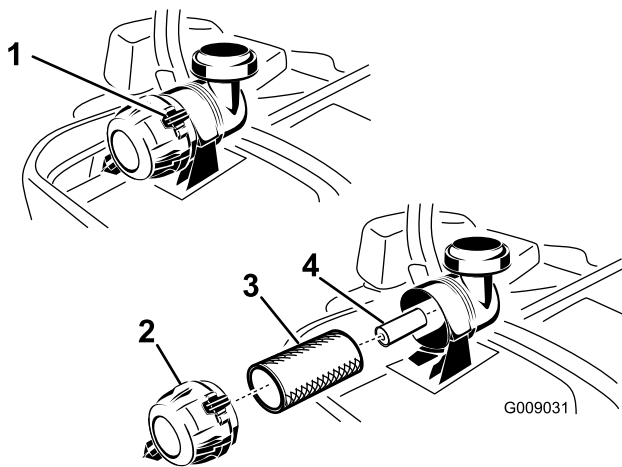

Figure 49
3. Push down to release the retaining clamps on the air cleaner, and pull the air-cleaner cover off the air-cleaner body (Figure 49).
5. Gently slide the primary filter out of the air-cleaner body (Figure 49). Avoid knocking the filter into the side of the body.
1. Do not clean the paper filter, replace it (Figure 49).
2. If the secondary filter is being replaced, carefully slide it into the filter body (Figure 49).
3. Carefully slide the primary filter over the secondary filter (Figure 49).
5. Install the air-cleaner cover with the breather cap down, and rotate so that the retaining clamps lock the cover in place (Figure 49).